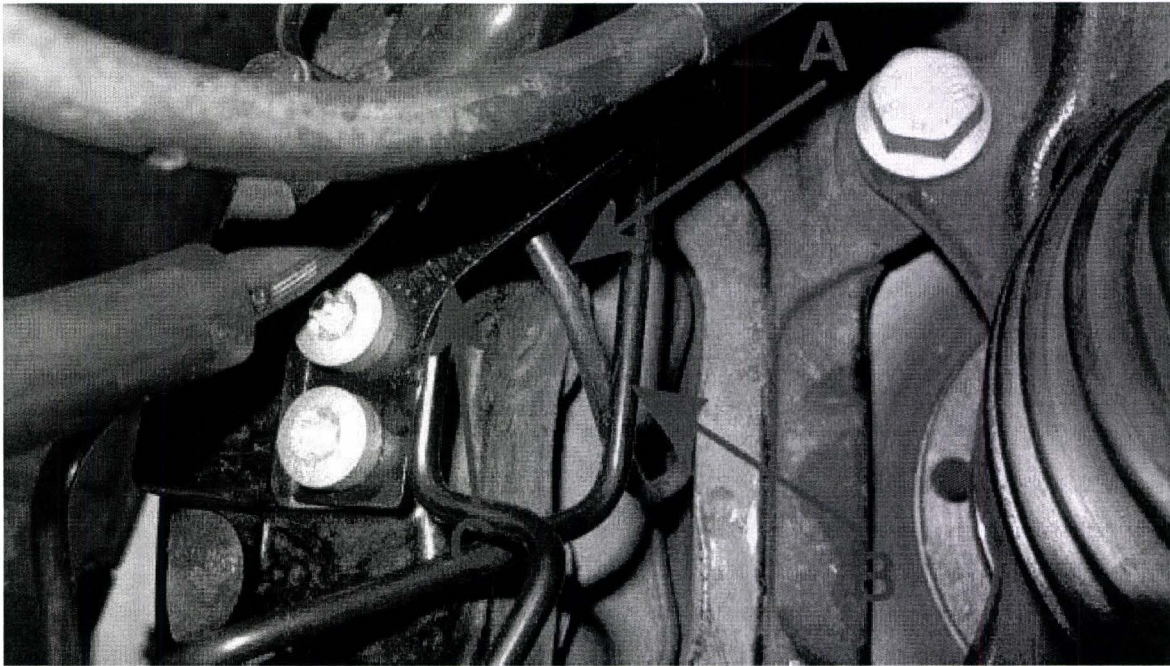

Figure 9
**IMPORTANT:** Referring to Figure 9, Check the routing of the pad wear indicator loom (Point A), the loom should be positioned behind the brake pipe (Point B) and pipe bracket (Point C)